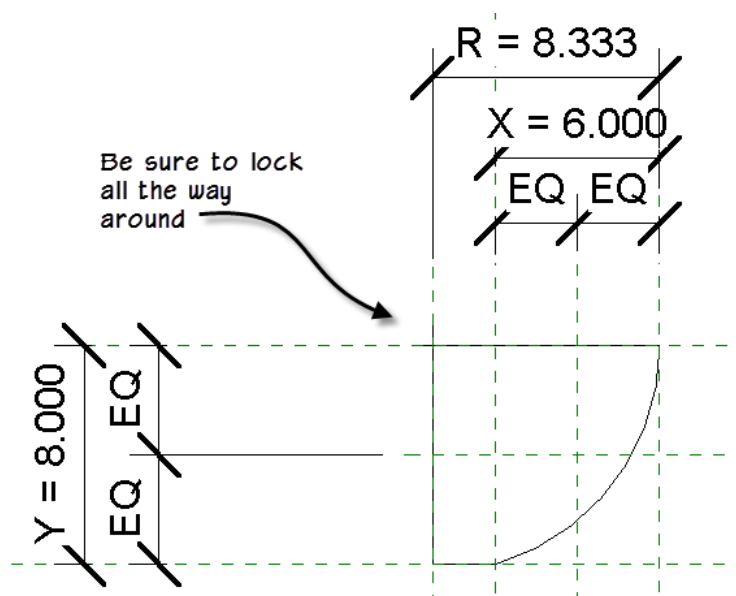

Figure 36—Create the profile lines
13. Draw vertical and horizontal lines locked to the reference planes for the leftmost edge and the top and bottom (see Figure 36).